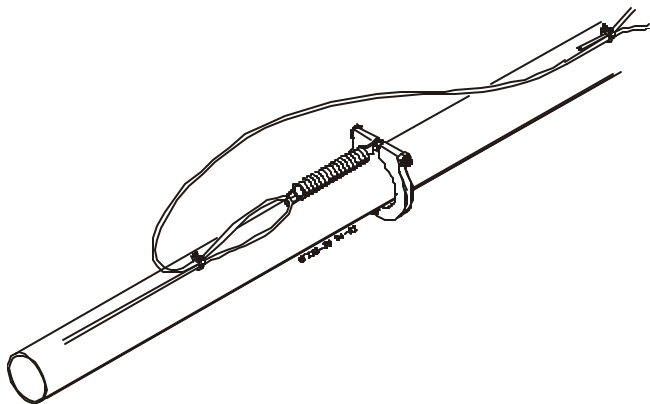

Figure 45.
- 6. There is not enough room between the feed hopper and the first feeder pan to attach and stretch the spring. Install the spring in between the first and second pan after the hopper. Then route the cable back to the first pan and attach to the feed tube cable assemblies. See Figure 45.